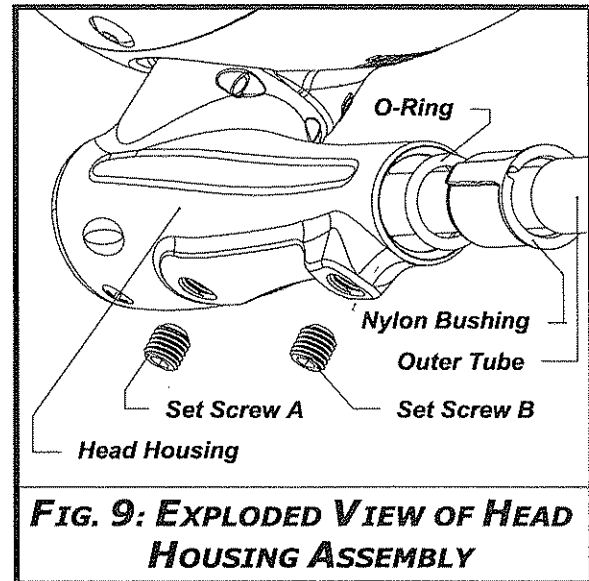
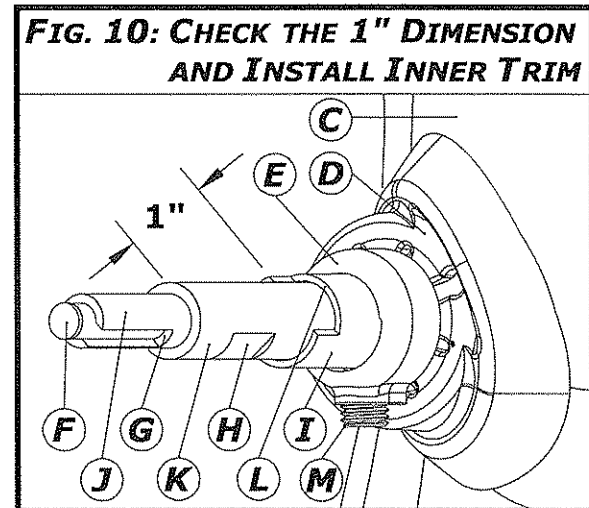
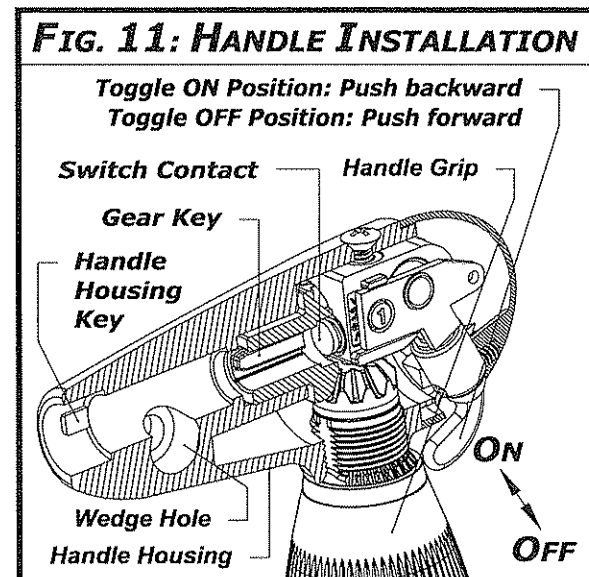

FIG. 9: EXPLODED VIEW OF HEAD HOUSING ASSEMBLY
FIG. 10: CHECK THE 1" DIMENSION AND INSTALL INNER TRIM
FIG. 11: HANDLE INSTALLATION
- Turn the toggle to the **OFF** position by pushing it down as shown in (Fig. 7), or forward as shown in (Fig. 11).
- Install the spotlight head and shaft assembly by passing the shaft through the bracket and then the shaft hole drilled in the "A" pillar (Fig. 8). This should be performed gently so that the electrical contact (F) at the end of the rod (J) (Fig. 10) will not be damaged.
- Tighten **Set Screw B** (Fig. 9) to create just enough friction to hold the spotlight head in the upper position as shown in Fig. 8.
- Check the distance (Fig. 10) between the end of intermediate tube (K) and the end of outer tube (I) and it should be at least 1". If it is less than 1", it means that the outer tube is not fully seated inside the head housing. The flat on the wedge (Fig. 8) cannot engage with the flat (H) milled on the intermediate tube (K) when installing the handle assembly in Step 11b. To correct the problem, loosen **Set Screw B** (Fig. 9) slightly, and push the head housing (Fig. 9) toward the vehicle inside until it is stopped by the outer tube, and then repeat Step 9c.
- Slide the inner trim (**D**) (**Fig. 10**) onto the spotlight shaft and orientate it to fit its bottom onto the garnish trim (**C**) properly.
- Slide the collar (**E**) (**Fig. 10**) onto the spotlight shaft, push it tightly against the inner trim, and tighten the set screw (**M**).
- Gently slide the handle assembly onto the spotlight shaft, at the same time, turn the handle grip (**Fig. 11**) to engage the gear key (**Fig. 11**) with the rod slot (**G**) (**Fig. 10**), and rotate the whole handle assembly to engage the handle housing key (**Fig. 11**) with the outer tube notch (**L**) (**Fig. 10**) and to bring and hold the handle grip to the position where the grip axis is approximately perpendicular to the flat (**H**) milled on the intermediate tube (**K**) (**Fig. 10**).
- Apply pressure to the handle assembly to engage the switch contact (**Fig. 11**) with the rod contact (**F**) (**Fig. 10**) and to fully seat the handle assembly onto the shaft. Insert the wedge (**Fig. 8**) into the wedge hole in the handle housing (**Fig. 11**) and wiggle the handle assembly to engage the flat on the wedge with the flat on the intermediate tube. Insert and tighten the wedge screw (**Fig. 8**) to 40 ± 5 in-lbs of torque.
- Make proper adjustments to **Set Screw B** (**Fig. 9**) which controls the tension for up-down swing (**Fig. 8**) of the spotlight head, and to **Set Screw A** which controls the tension for 360° rotation (**Fig. 8**) of the spotlight head, so that they create just enough tension to hold the position of the spotlight head in wind. Over-tightening may cause difficulties to aim the spotlight as well as premature wear-and-tear of the spotlight components.